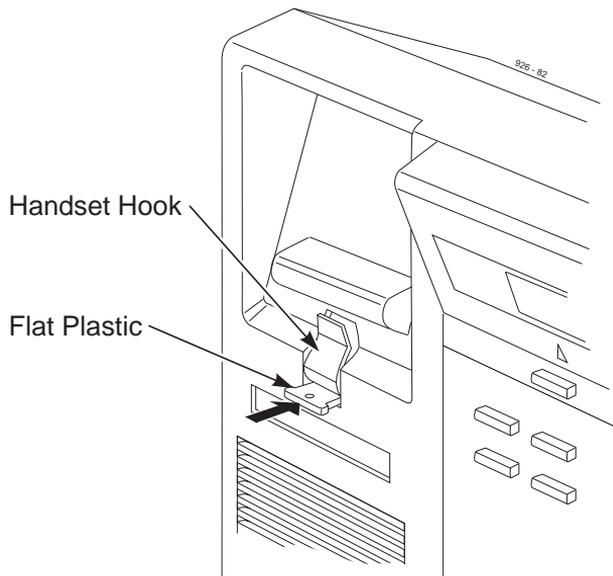

Figure 4-31 INSTALLING THE WALL-MOUNT HANGER (i-SERIES PHONES)
4. Insert the wall-mount hookswitch tab in the slot below the hookswitch. The tab should be pushed in until it's flush with the base (Figure 4-31).